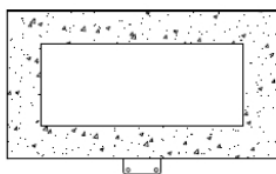

Fig.5
4. Fix the Wall bracket. Again with the help of another person (to avoid injury,damage to property or appliance), lift the heater into place and engage the heater with the top wall bracket(Fig.5), is positioned centrally, then gently angle heater down against the wall and secure bottom bracket with 2 screws (40mm) against the wall.